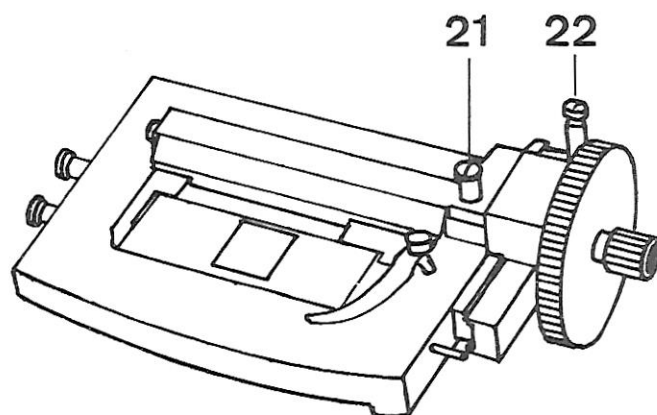

Fig. 6
b) Stage with mechanical stage and click stop mechanism (see Fig. 6).